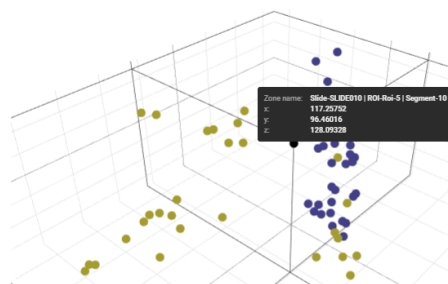

Figure 91: PCA plot hover-over pop-up
- Hover over a datapoint on the plot to see a pop-up (see Figure 91) displaying the segment name it represents, associated tags, and each of its coordinates and to see its three dimensions defined.